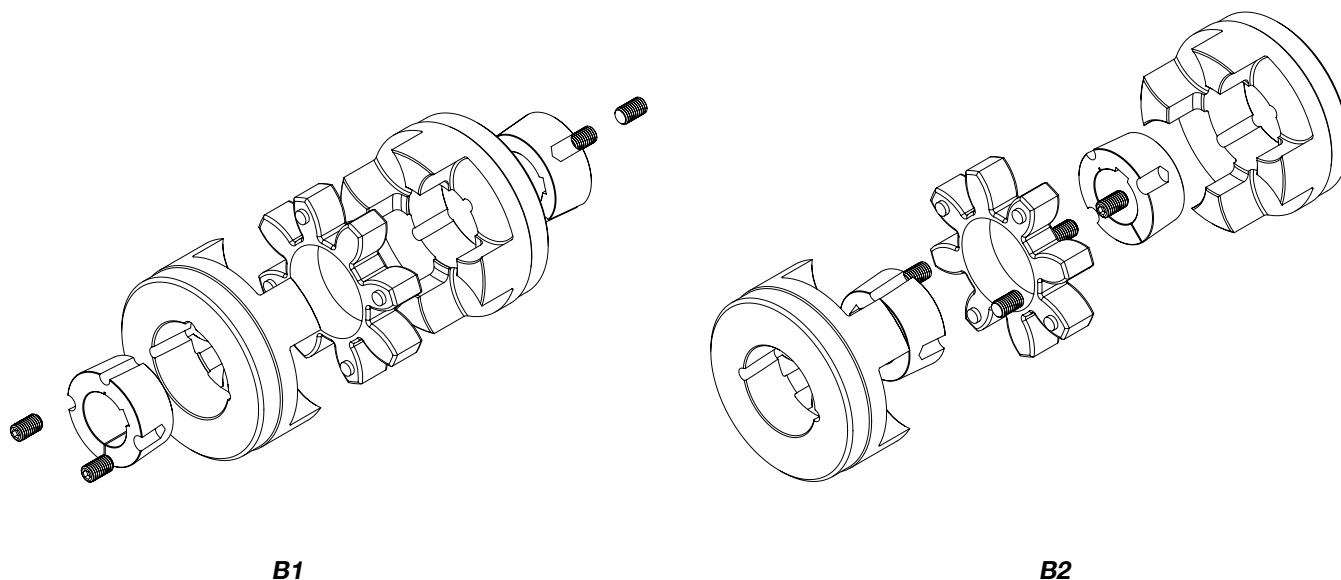

Figure 4-3 - Types of GRB
- 2 hubs (B1 with bush mounting from the outside, B2 with bush mounting from the inside, FIGURE 4-3 - Types of GRB)